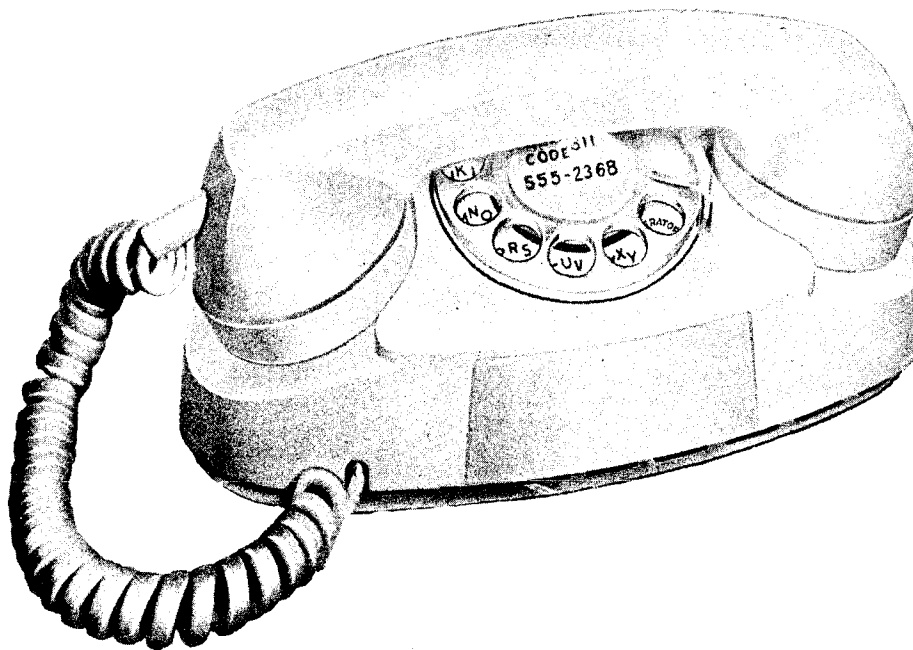

Fig. 1 – 700-Type Telephone Set
2.10 When the customer desires a telephone in a dimly lit location, a set with a dial light such as the 700 type (Fig. 1) may be desirable.